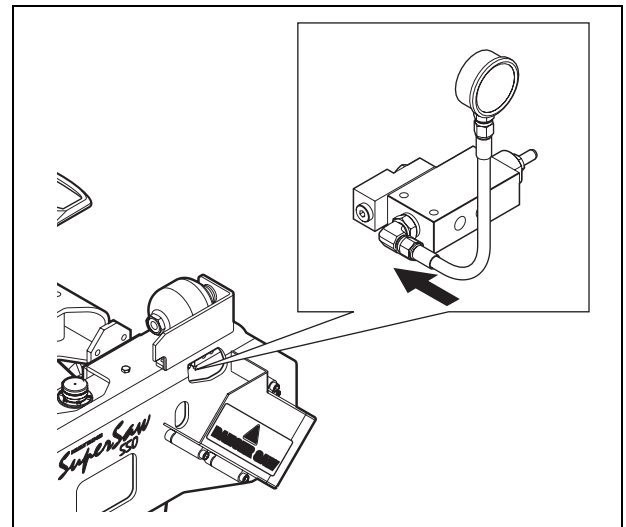

Fig. 22 Connect a pressure gauge to the pressure regulating valve
3. Connect a suitable pressure gauge to the pressure regulating valve. *See Fig. 22.*